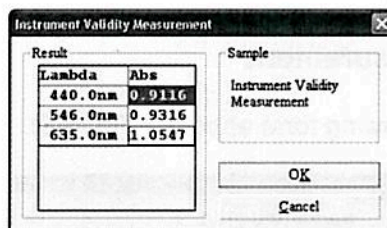
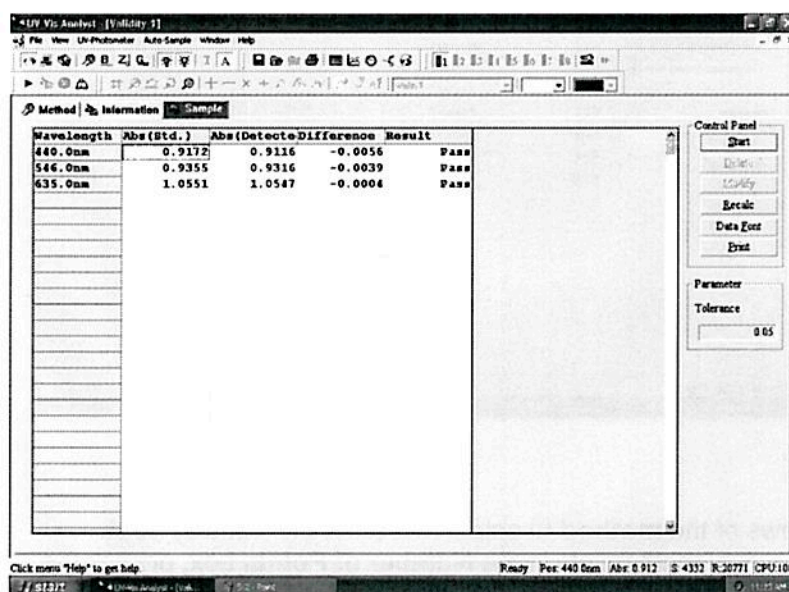

Fig. 5-3
Fig. 5-4
6. Place the **Photometric Standard Filter** in sample holder, click  to run a new measurement, appears following form (Fig. 5-3). Click OK to list the data in the table (Fig. 5-4).